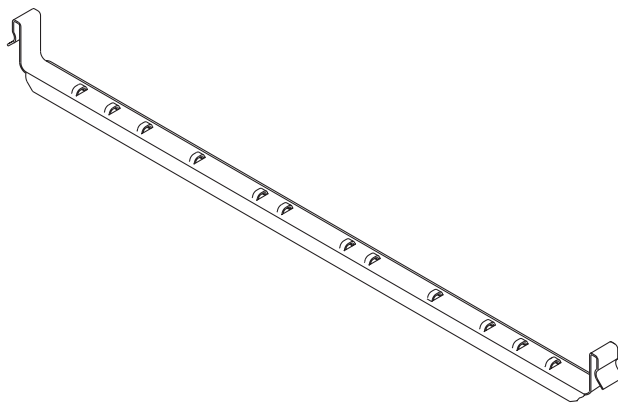

FIGURE 3-10 Cable Management Bracket
18. Hook the cable management bracket (FIGURE 3-10) over the mounting brackets behind the array.